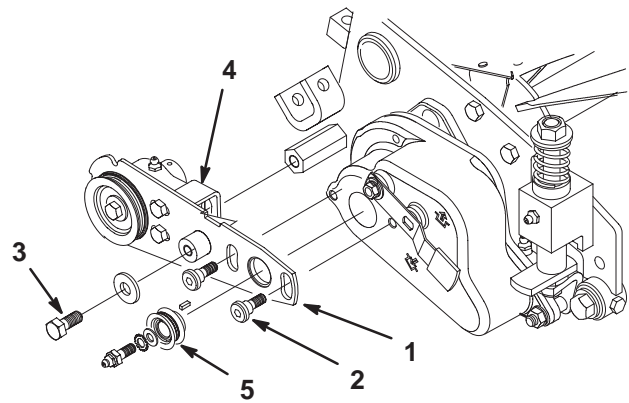

Figure 13
6. Insert the lip of the drive assembly pivot plate into the hole in the groomer drive cover. Secure the pivot plate to the groomer drive cover with 2 special shoulder bolts (Fig. 13). Tighten the bolts securely.
7. Loosely secure the pivot plate slotted bracket to the long hex extension with a hex head screw (M10) and flat washer (Fig. 13).
8. Install the small drive pulley and square key to the groomer drive shaft with the grease fitting or relief valve (previously removed), the external tooth lockwasher, and the flat washer. Tighten it securely (Fig. 13).